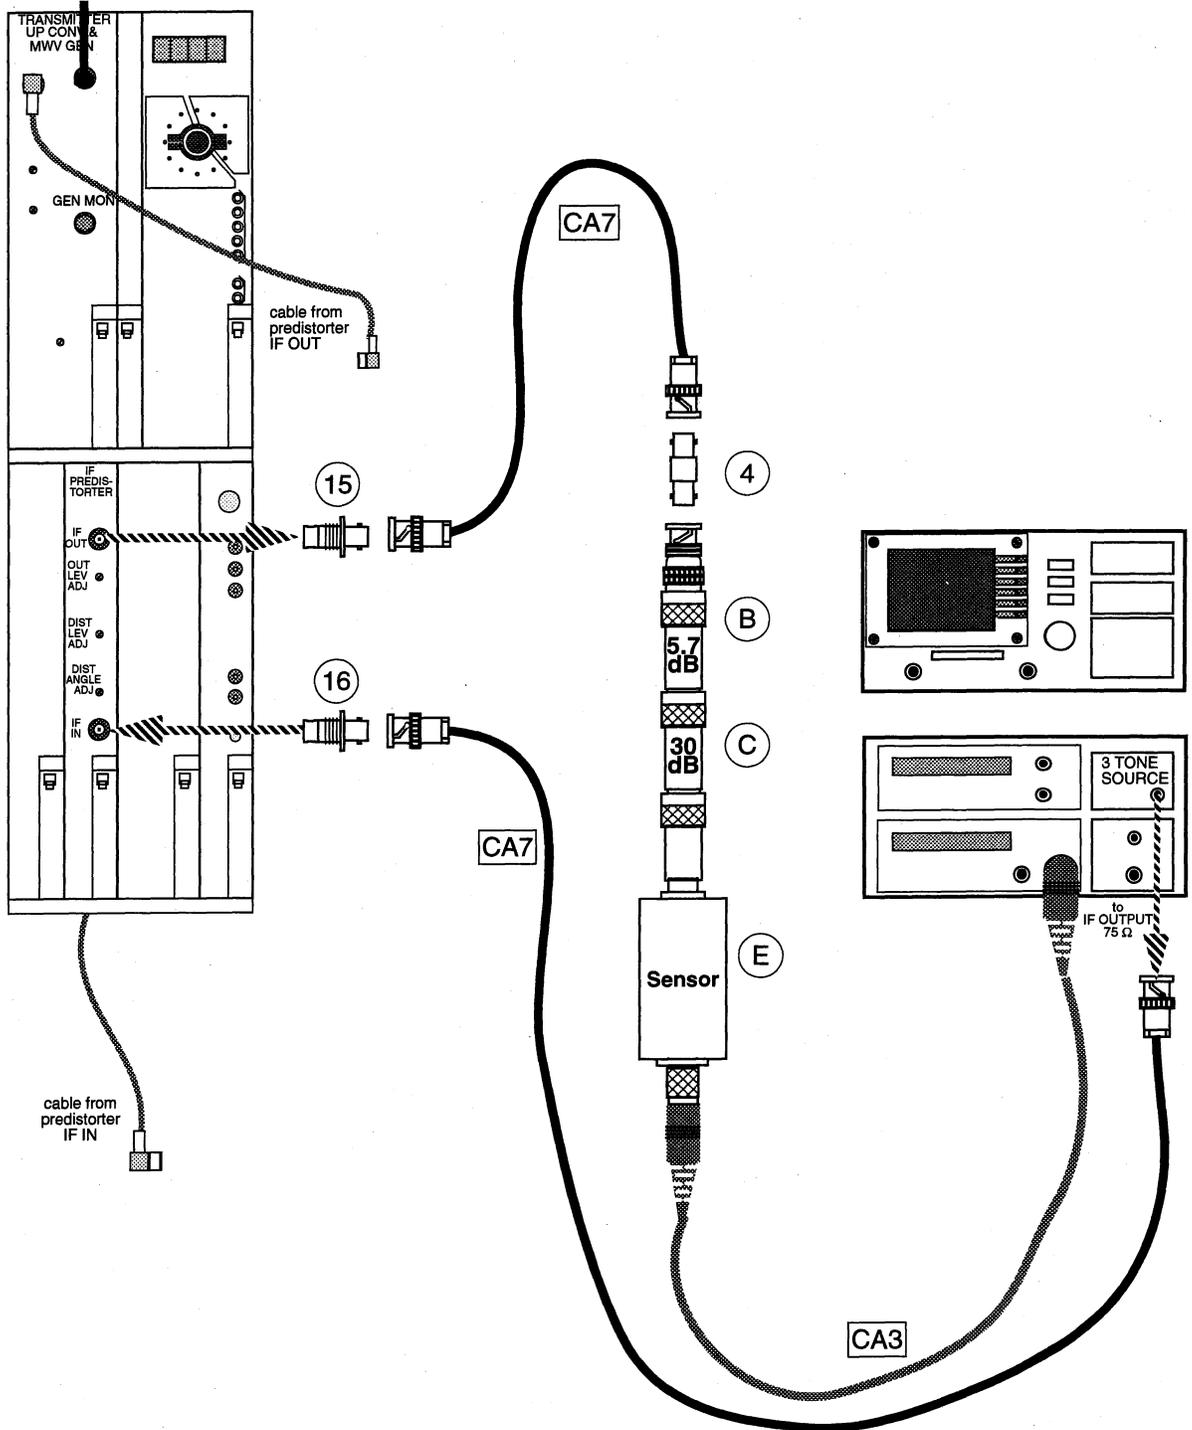

Figure 6. Establish 3-Tone Test Signal Level
- 7 Connect the test equipment as shown in Figure 6.